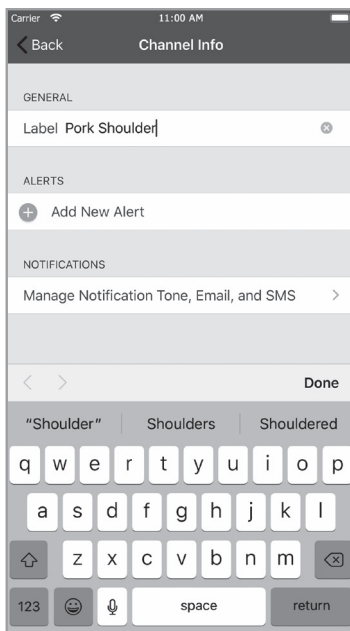

FIG 18
- The names of the two probe ports can be set according to what you're cooking. Tapping on the probe port in the grey banner will allow you to change its name. (**FIG 18**) This name will also be used in the various charts throughout the app.
- An alert – in the form of an app alert, an SMS text message, or an email – can be set to let you know when one of the meat probes are at a certain temp. Simply tap on the temperature shown for the probe in the grey banner, tapping “Add New Alert,” then “Set Up Alert” and set up your parameters. (**FIG 18, 19**)